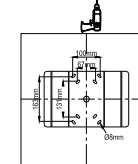

Figure 8
1. Drill the alignment holes on the top ceiling, make them match to the holes on mounting bracket.(Figure 8)